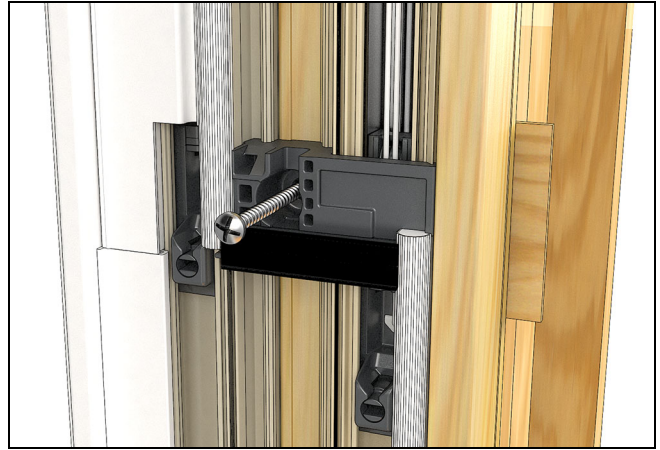

Figure 23
7. Secure the frame to the opening using #8 X 3" screws through the pre-marked installation holes and through the center of the jamb receiver assembly. See Figure 23.